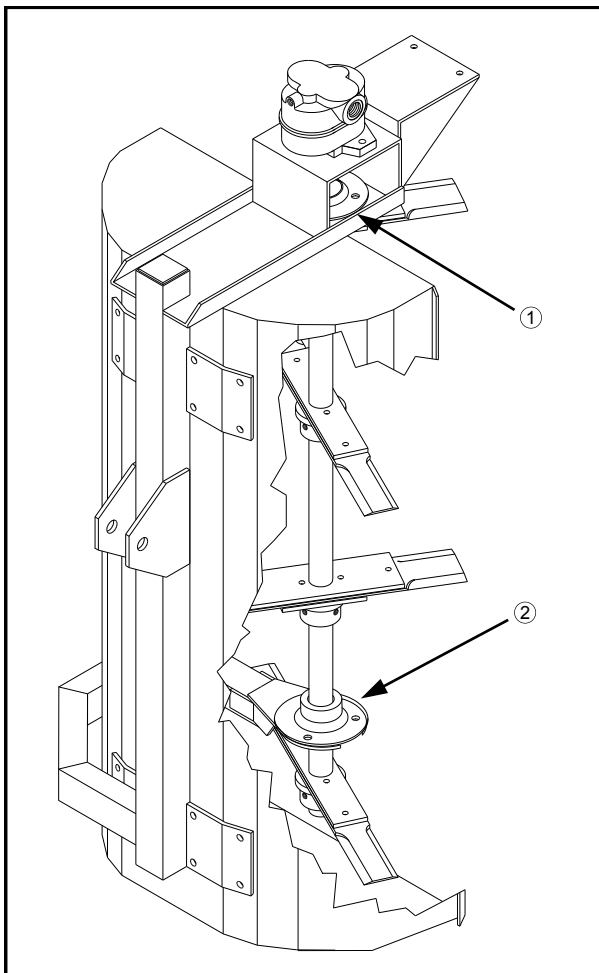

FIG 7.28
Grease both upper (fig. 7.28, item 1) and lower (fig. 7.28, item 2) shaft bearings 4 times a day. Suggested times are morning, mid-morning, noon, and mid-afternoon.